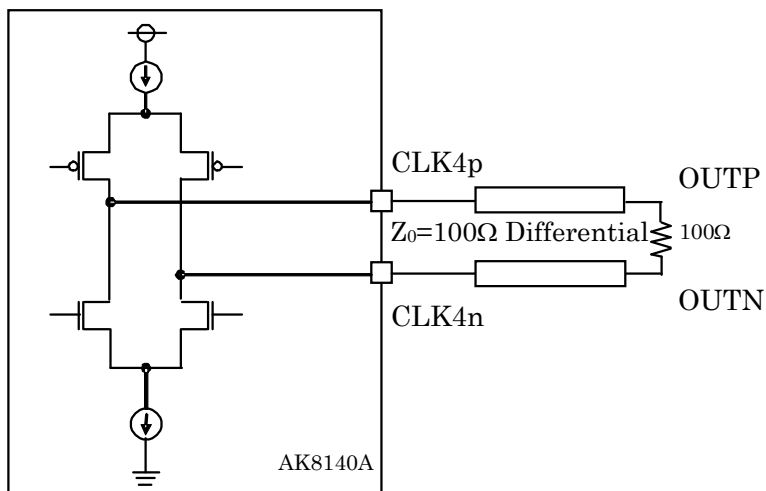

Figure 3. CLK4p/n LVDS Clock measurement circuit
- (1) LVDS clock measured at the circuit shown in Figure 3.
- (2) When ODIV4 divides the PLL1/2 Clock.
- (3) When ODIV4 divides the Input Bypass Clock by even dividing value.
- (4) When ODIV4 divides the Input Bypass Clock by odd dividing value.